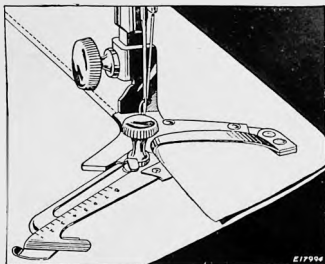

FIG. 43. SHOWING HOW ADJUSTABLE HEMMER IS USED FOR MAKING HEMS WIDER THAN  $\frac{15}{16}$  INCH
- (1) Loosen the thumb screw on the hemmer, move the scale to the right as far as it will go, then swing it toward you, as shown in **Fig. 43**, and tighten the thumb screw.
- (2) Fold and crease the desired width of hem.
- (3) Place the fold under the extension at the right of the hemmer and the edge into the folder, as shown in **Fig. 43**.
- (4) Draw the end of the hem back under the needle, lower the presser bar and commence to sew.
- (5) Guide the cloth to keep the hem flat.
**Folded bias binding** must be inserted in the slot or slots of corresponding sizes. See **Fig. 43**.